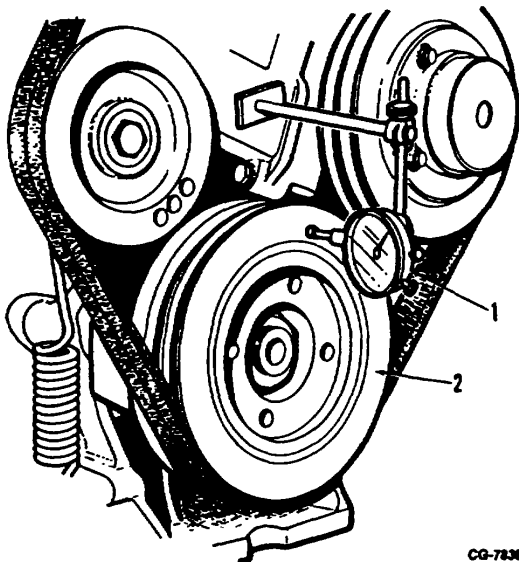

Figure 112.
- 3. Measure wobble on front face of inertia member Figure 112.